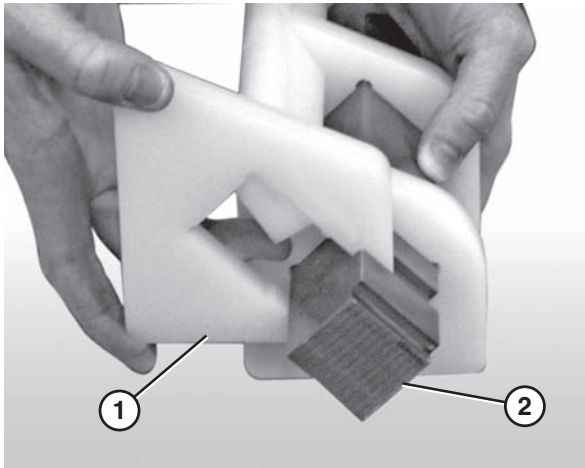

Figure 68
3. Attach the nose bar tracking pucks (Figure 68, item 1) to the nose bar drive post (Figure 68, item 2).